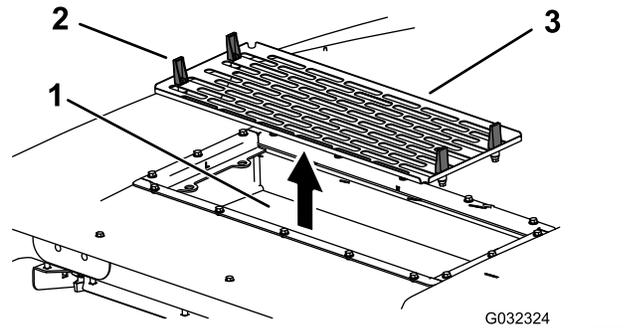

**Figure 150**
6. Install the air filters, screen, and fan assembly (Figure 148, Figure 150, and Figure 151).
7. Connect the wire for each fan (Figure 150).